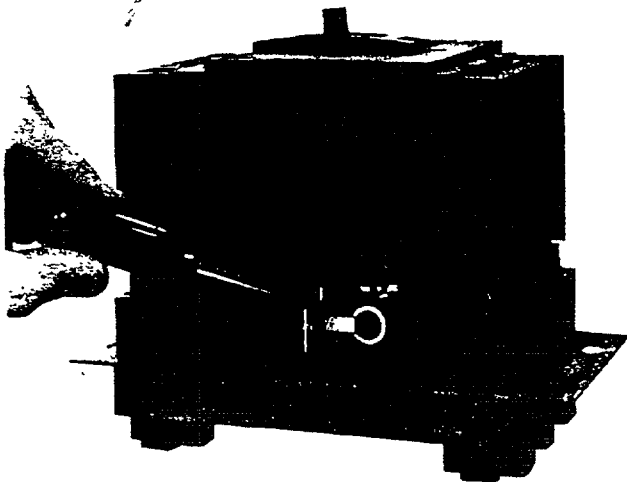

Figure 4
4. Replace breaker in plug-in base and adjust switch by slowly moving switch mounting plate toward plug-in base plate until switch is just actuated, Figure 4. (Circuit OPEN with black wired Shunt Trip device; Circuit CLOSED with blue wired Undervoltage Release device.)